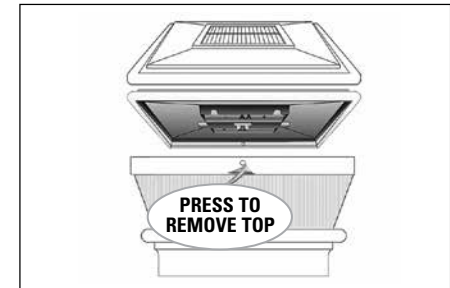

Figure 2
- 1 Remove top by pressing inward on the side of the clear lens, grasping the edge of the top and lifting it off (Figure 2).